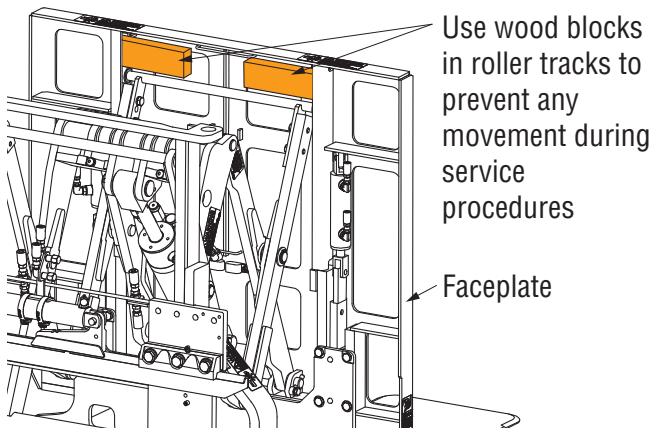

Figure 4-3, Block Rollers
7. Install wood blocks in the roller tracks as shown in Figure 4-3, to prevent the rollers from moving. The tracks will accept a piece of 2 x 4 (nominal). Use zip ties to secure the blocks in place. Remove blocks and ties before returning the attachment to service.